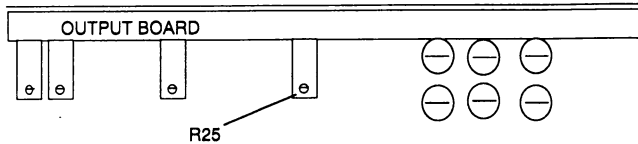

Figure 4-9. R25 Locator
4. Use the **Knob** to move between 2 and 15. Slide the cover back, and adjust the Output board's R25 (see figure 4-9) until the dc offset change between 2 and 15 is less than 2mV at both amplitudes. Slide the cover back on.